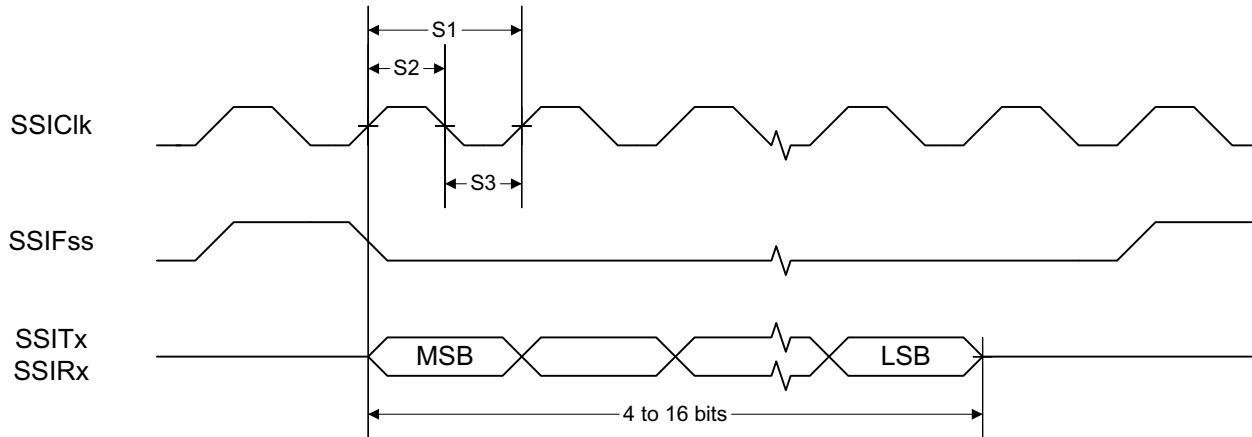
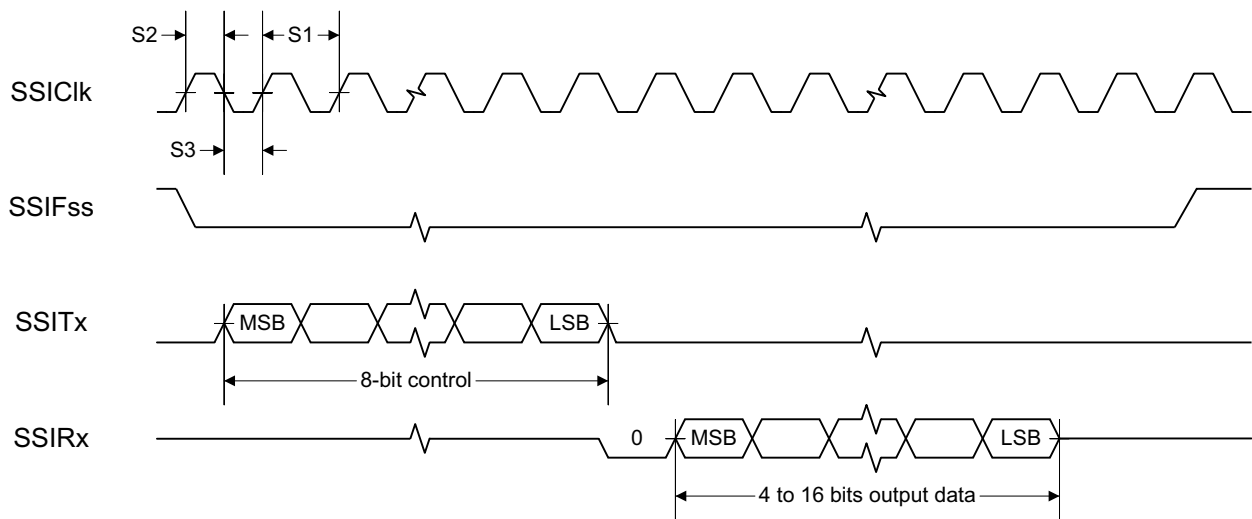
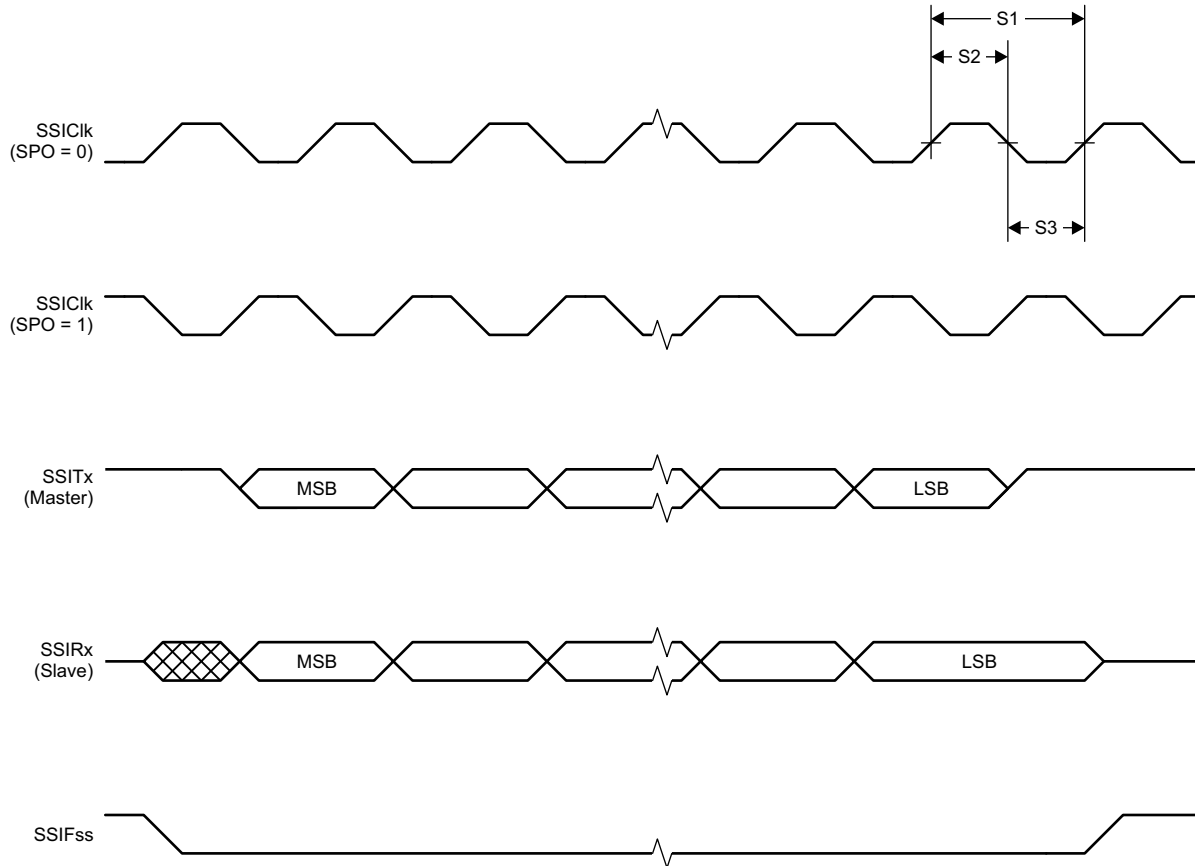

Figure 8-1. SSI Timing for TI Frame Format (FRF = 01), Single Transfer Timing Measurement
Figure 8-2. SSI Timing for MICROWIRE Frame Format (FRF = 10), Single Transfer
Figure 8-3. SSI Timing for SPI Frame Format (FRF = 00), With SPH = 1
- (1) Refer to SSI timing diagrams Figure 8-1, Figure 8-2 and Figure 8-3.
(2) When using the TI-provided Power driver, the SSI system clock is always 48 MHz.